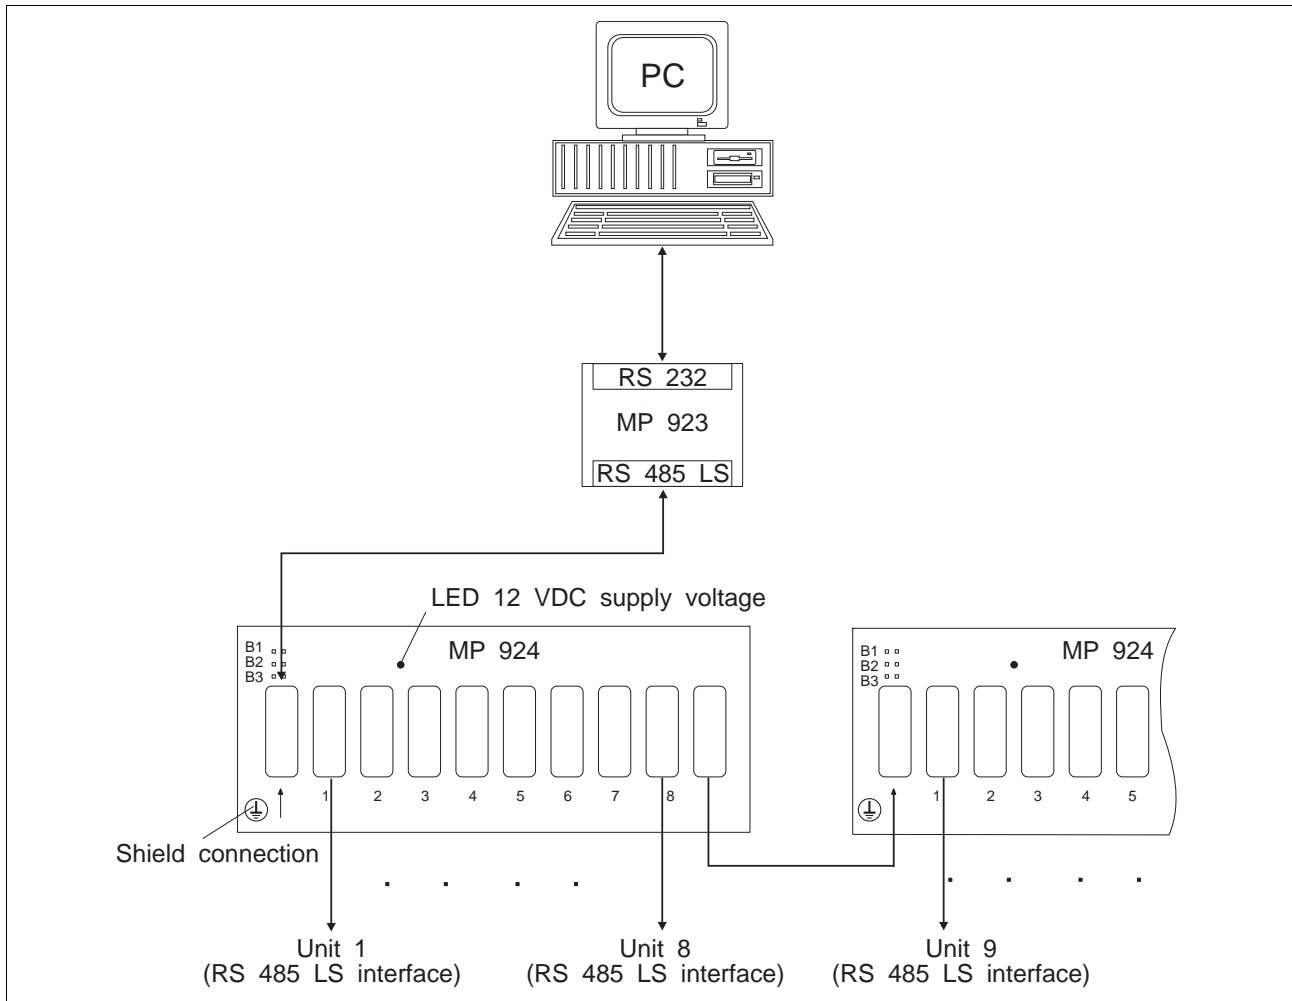

Bild 6-6 MP 924 interface distributor wiring
1. Wire the MP 924 interface distributor in accordance with fig. 6-6. For interface conversion RS 232 ↔ RS 485 LS (RS 422), use the MP 923 interface converter (see chapter 6.2.2).
2. If several MP 924 interface distributors are used, combine them as illustrated in fig. 6-6.